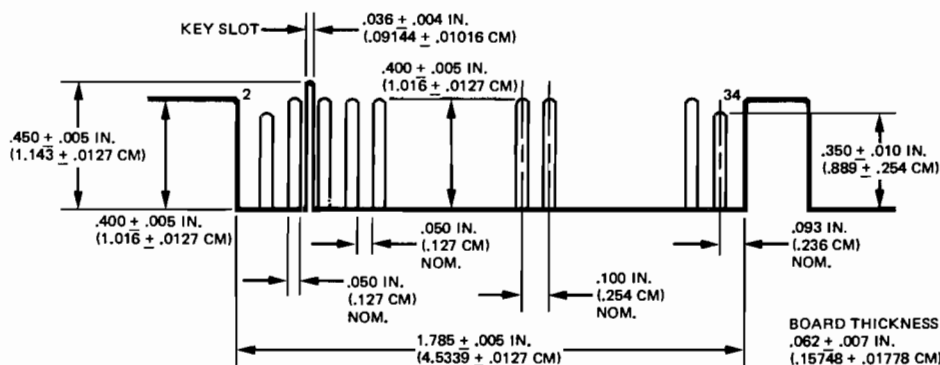

Figure 2-4. J1 Connector Dimensions
2.3.2.1 Signal Interface Connector. The signal interface (J1) is a 34-pin PWB edge connector with dimensions as shown in Figure 2-4. Even-numbered pins are located on the component side of the PWB, and odd-numbered pins are located on the solder side. Pin 2 is located closest to the corner of the PWB. A slot is provided between pins 4 and 6 for connector keying. The recommended connectors for P1 are listed in Table 2-1.